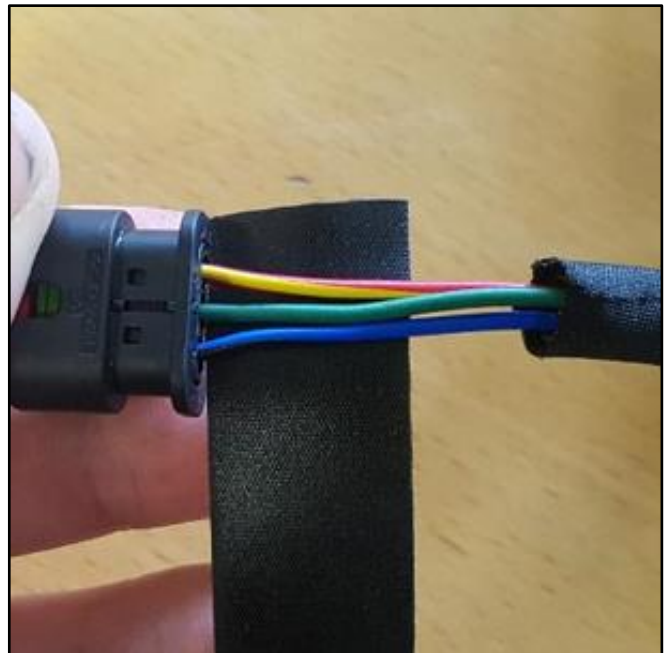

Figure 3
3. Make sure that the three wires of one of the connectors are flat and adjacent to each other. (Refer to Figure 3.)